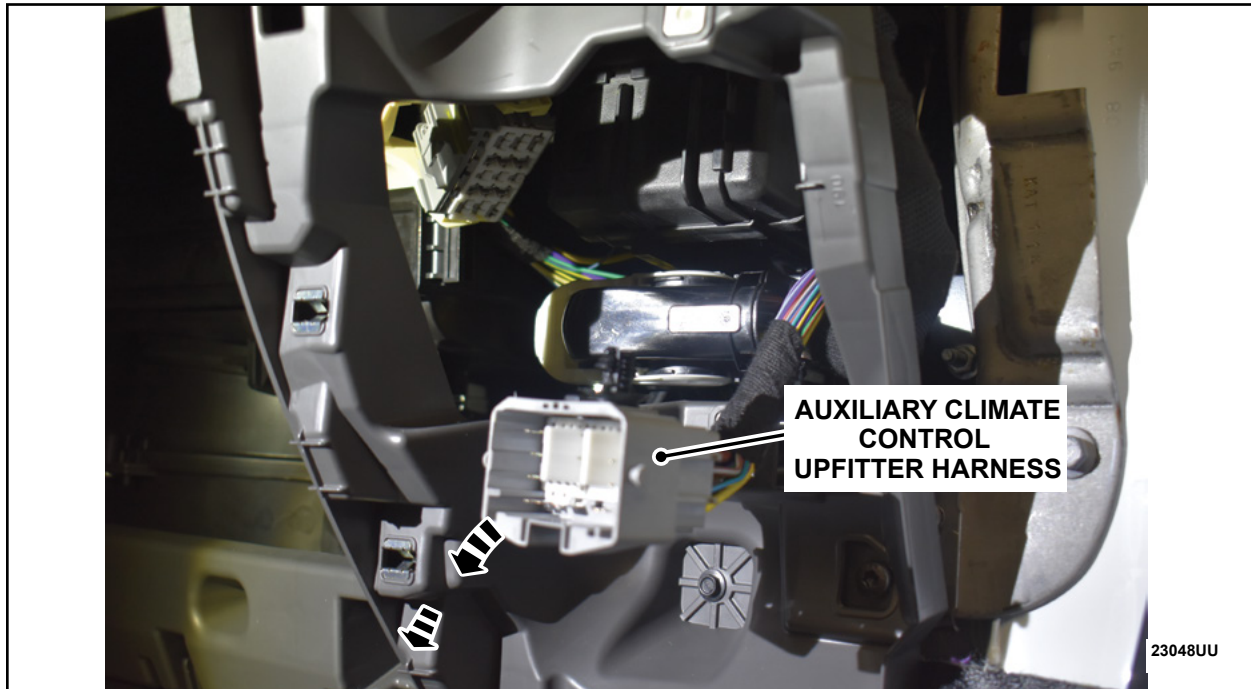

FIGURE 27
30. Disconnect and lower the auxiliary climate control upfitter harness down far enough to gain access to approximately 12 in (305 mm) of the harness. See Figure 27.